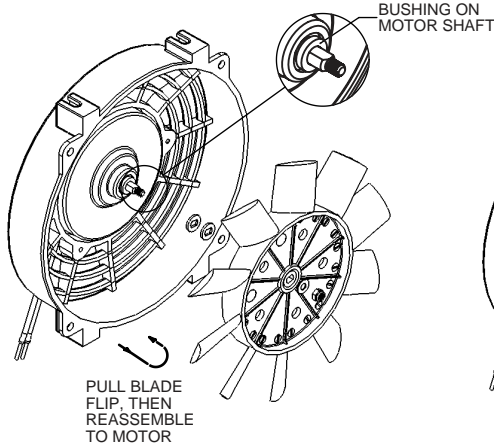

FIGURE 4
2. Carefully pull the blade off the motor shaft. Caution - edges of blade are sharp. Do not try to drive the motor out by impact! This will destroy the motor and void the warranty. Flip the blade, then place back on the unit by lining up the hub center with the motor shaft. Blade will rest on spacer as shown in figure 4. Be very carefull not to lose any of the spacers.